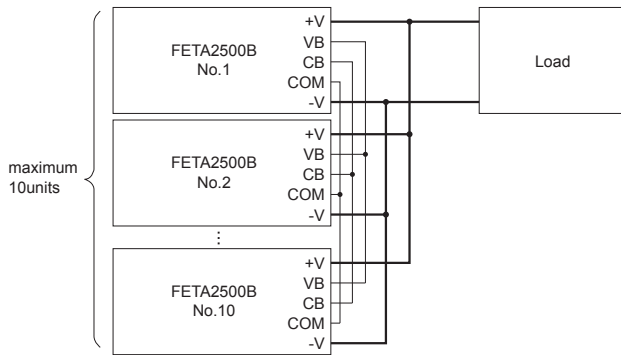

Fig.3.2 Example of parallel connection
■ You can use the power supplies in parallel operation by connecting units as shown in Fig.3.2.